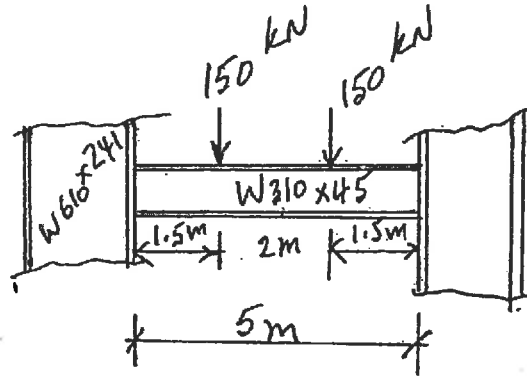

FIGURE A3
- A3. The loaded steel beam W310 x 45, G40.21 350W, in Figure A3 is simply supported by two identical columns, W610 x 241 of G40.21 350W. Design the connections between the steel beam and the columns. Also, check the capacity of the steel beam to carry the loads shown.